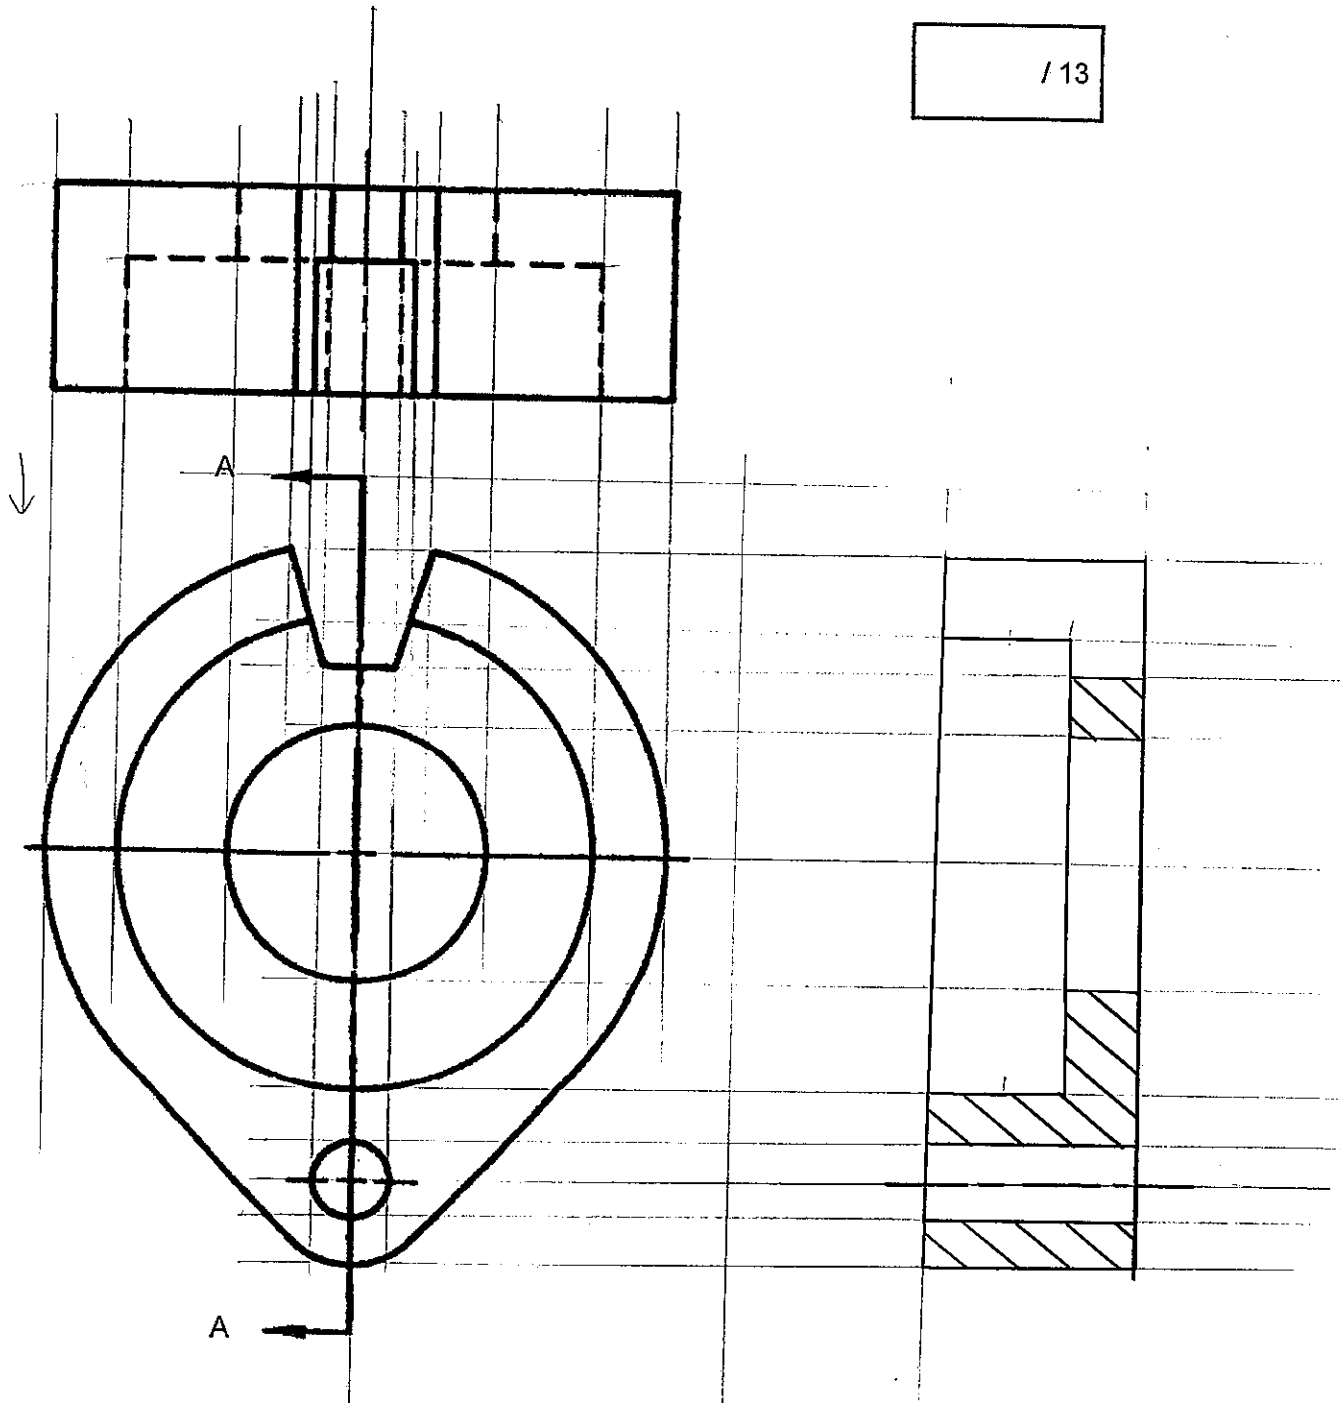

Figure 3(a)
- 3(a) A support as shown in Figure 3(a) is presented in the **Third Angle Projection**. Draw a sectional view on A-A of the object showing all the construction lines and outlines clearly. Hidden lines are not required.
3(b) Using the Tables in the Appendix, determine and enter the missing dimensions into each of the Tables as shown in Figure 3(b).